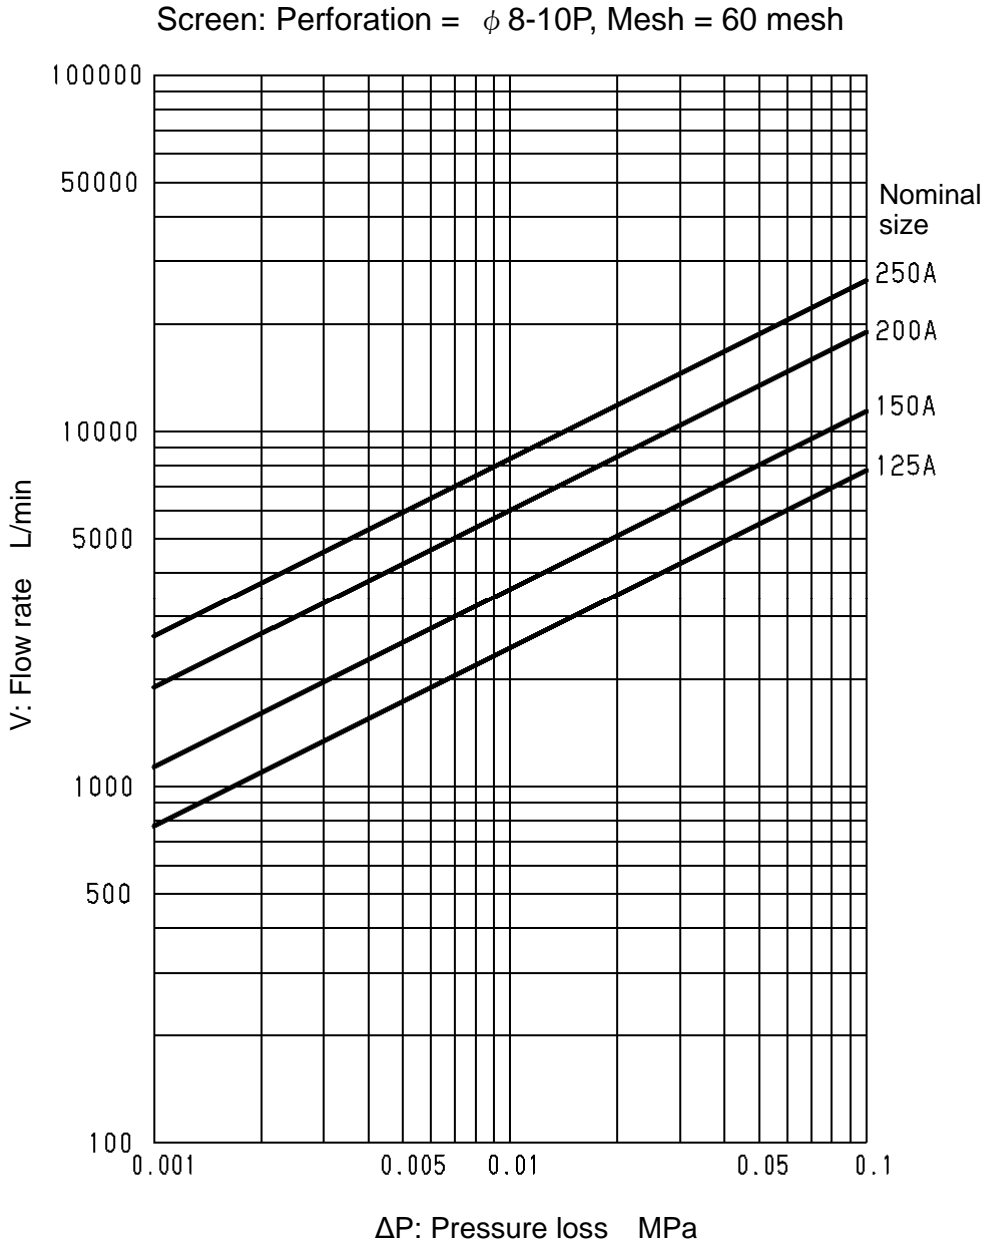

Fig.1 Pressure Loss Chart (For Water)
Select a strainer of the same nominal size as that of the pipe (nominal size of piping = nominal size of strainer). Note that using a strainer of a smaller nominal size increases the pressure loss of the strainer and may result in the pressure fallen below the specified level at the inlet side of the equipment (see Fig. 1 “Pressure Loss Chart”).
3. Nominal size of the product is too small for the flow rate.	3. Replace the product with a new one proper for the flow rate (see Fig. 1 "Pressure Loss Chart" on Page 3).